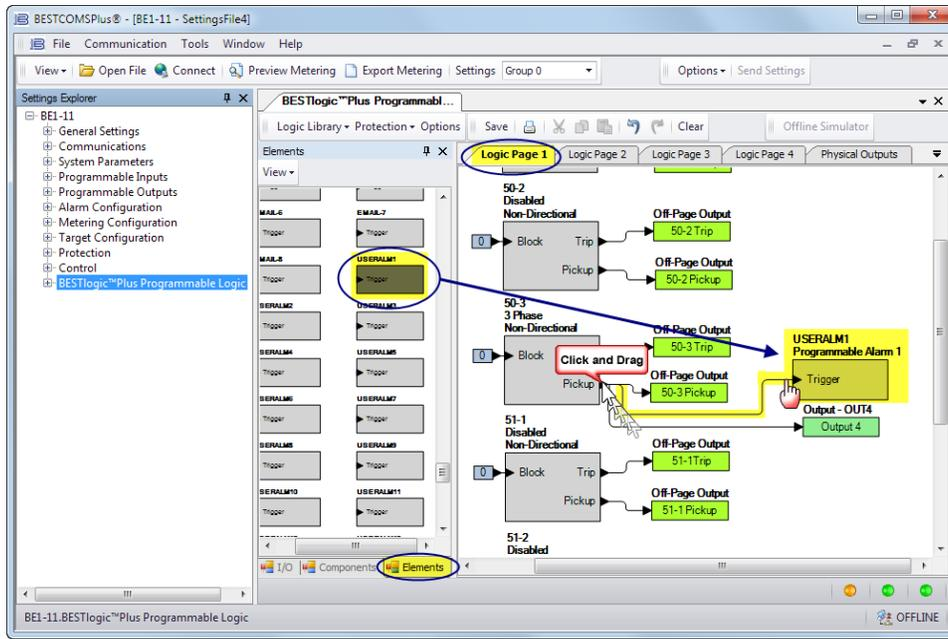

Figure 16. BESTlogicPlus Programming User Alarm 1
Step 11: In this step, the Pickup output of the 50-3 element is connected to User Alarm 1. When the Pickup output of the 50-3 element is true, the label of the user alarm is displayed on the Alarms screen on the front-panel display and in the fault report and/or sequence of events report. The label is named in Step 13. Click the Logic Page 1 tab and then click the Elements tab at the bottom. Locate the User Alarm 1 element. Click and drag USERALM1 over to the logic diagram. Click on the Pickup output of the 50-3 element and drag to the input of USERALM1 to make a connection. Refer to Figure 16.